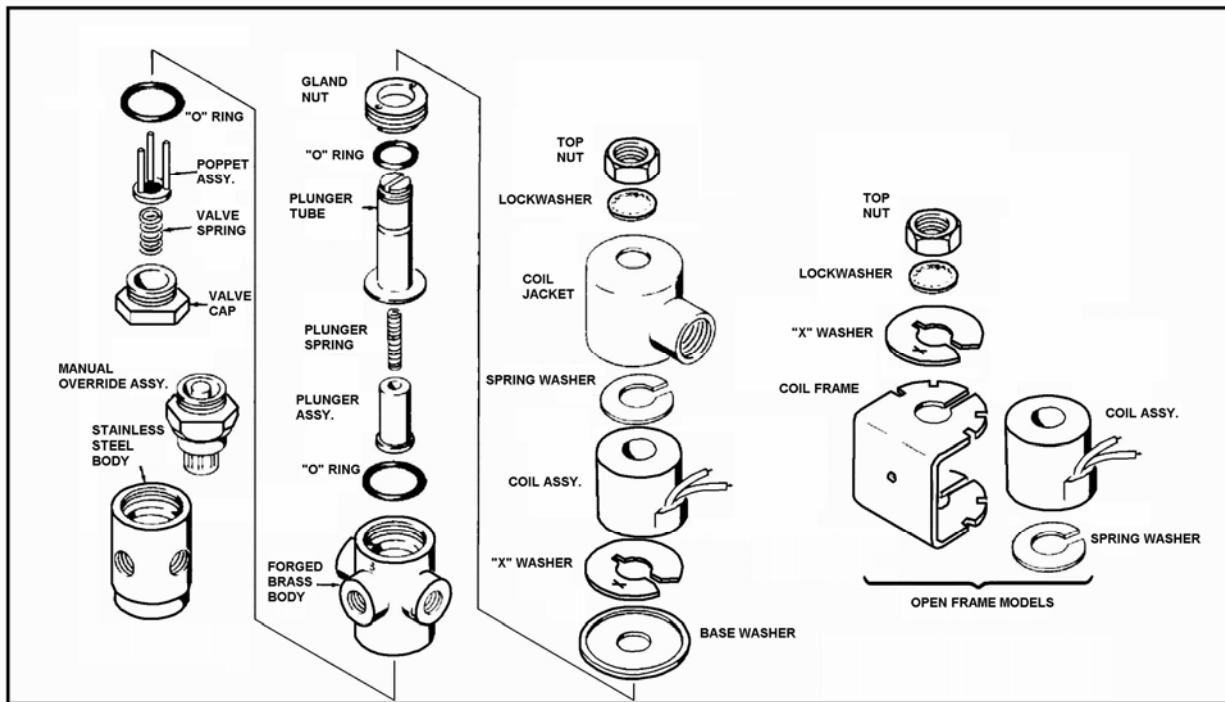

Fig. 2 Exploded View of Typical S33 Standard and Open Frame Models
9. Reassemble in reverse order of disassembly paying careful attention to exploded view provided in Fig. 2.